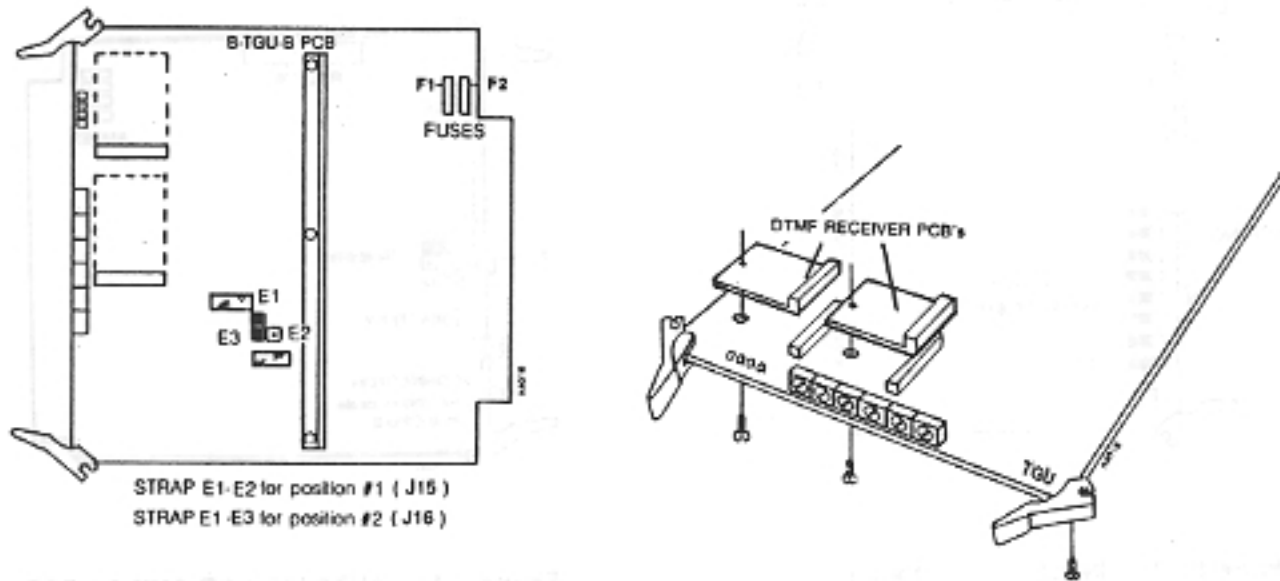

Figure 5-12 TONE GENERATOR ( B-TGU-B ) PCB
**6.09** Up to two Tone Generator ( B-TGU-B ) PCBs can be installed in the TCX-128 system. If additional DTMF receivers are required ( per Table 3-6 ), install them on the Tone Generator PCB ( Figure 5-12 ). Strap the B-TGU-B PCB as follows: